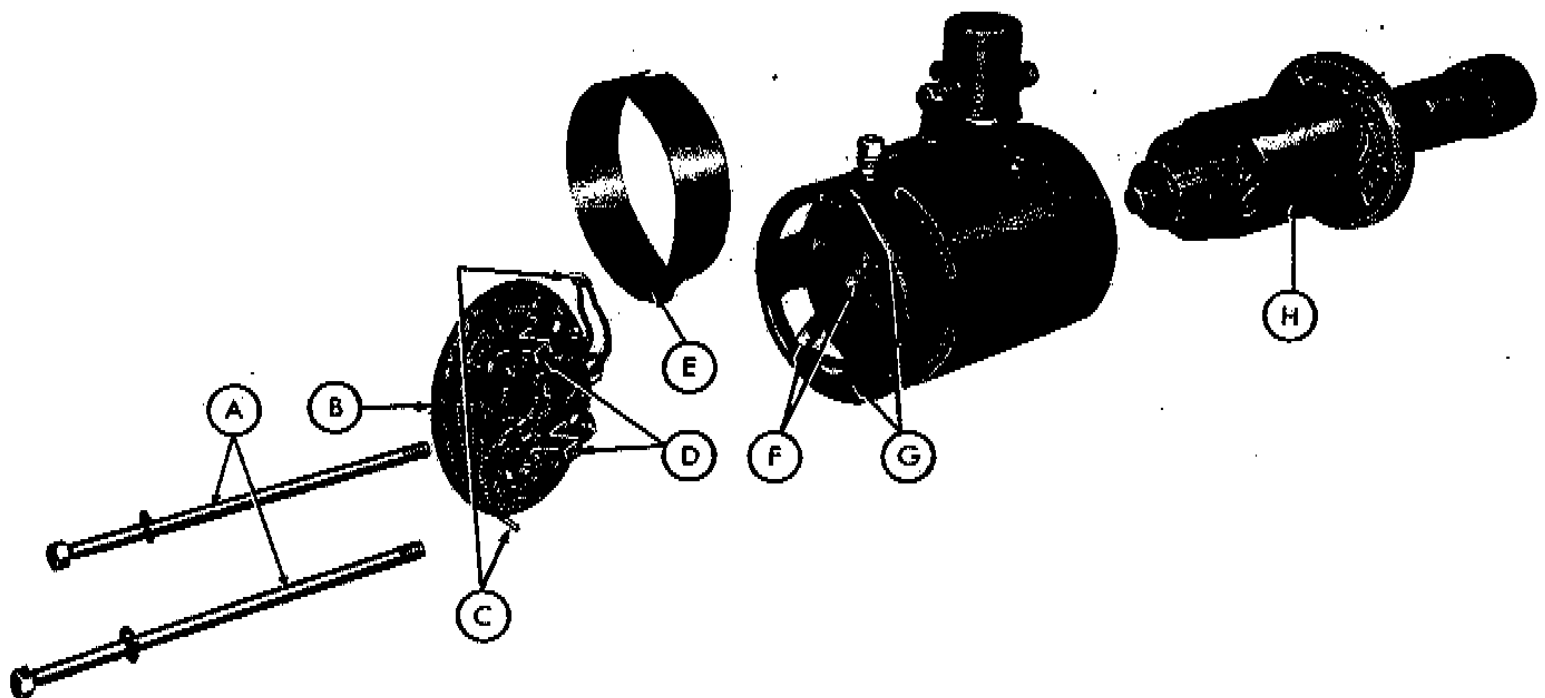

Fig. 1
Step 1—Remove the two long bolts (A-Figure 1).
Step 2—Remove the armature and the bendix assembly (H-Figure 1) as a unit.
Step 3—Remove the cover band (E-Figure 1) from the starter case.
Step 4—Remove the brush end plate assembly (B-Figure 1).
(F-Figure 1) from the brackets (D-Figure 1) in the brush end plate.
b. Remove the two screws (G-Figure 1) that hold the ground brushes (C-Figure 1) to the starter housing.